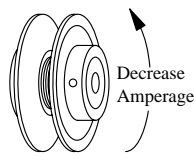

Fig. 6
- **Pulley adjustment.** With an ammeter, check the motor amperage. Adjust the pulley until the amperage draw on the motor is just below that specified on the motor nameplate. To adjust the pulley, loosen the adjustment set screw and rotate the sheave. Tighten the set screw so that it is over a flat area, otherwise thread damage will occur. To increase amperage draw, increase pulley diameter. To decrease amperage draw, decrease pulley diameter (see Fig. 6). Recheck belt alignment.